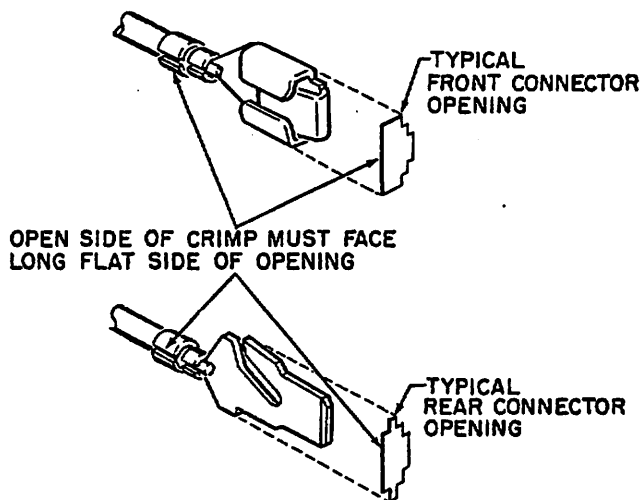
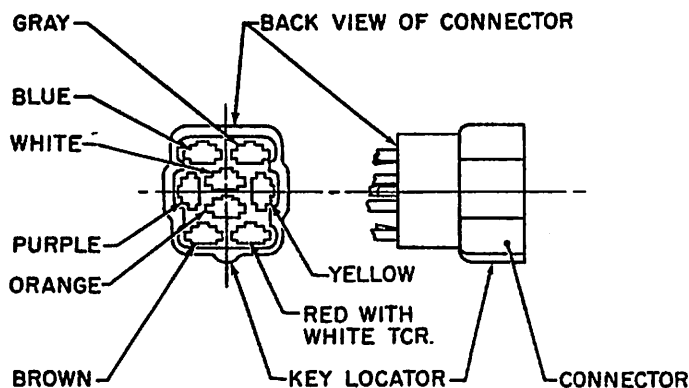

Fig. 6 TERMINAL INSTALLATION
Fig. 9 WIRE LOCATIONS FOR PUSH BUTTON CONNECTOR
**NOTE:** If the terminals are not properly installed with the opening where the wire is clamped by the terminal toward the flat side of the opening in the case there will be a tendency for the terminals to work loose. See figure 6.
6. When installing the push button be sure the terminals are installed as shown in figure 6 and in the position noted in figure 9.